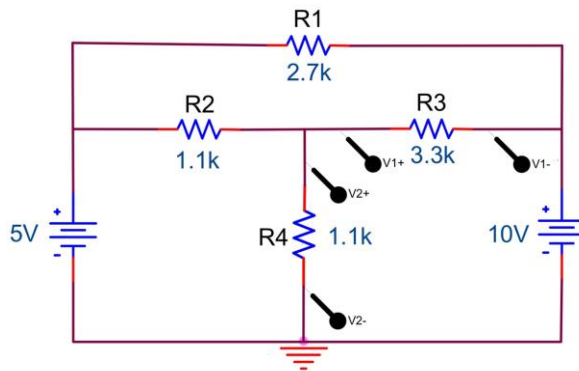

Figure 6.13
6. Construct the circuit of Figure 6.13 and measure V_1 and V_2 .